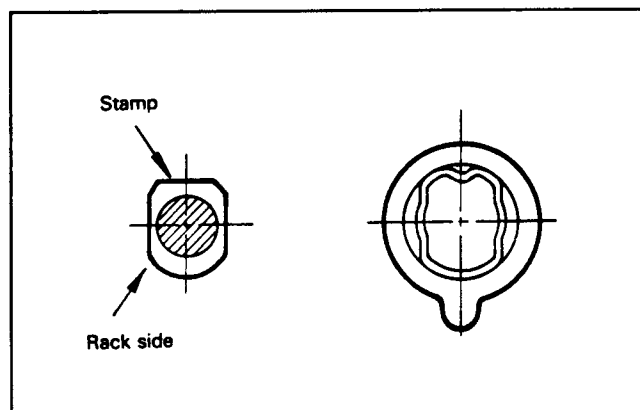

Figure 48
5. Fit the lower seat to the plunger. Insert the plunger into the barrel (Fig. 48).